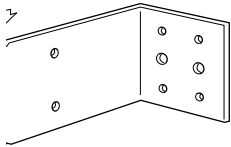

Fig.3. Selecting bracket length.
- b) Mounting brackets are supplied with all OPUS fans but, depending on the type of unit, may need to be shortened. The bracket has a series of notches, one of which is suitable for your unit. Offer up the bracket to the unit (small leg of bracket to back of unit) and note the notches which correspond with the back of the skirt. Using a hacksaw cut the bracket to length. Similarly prepare the two remaining brackets. (Fig. 3).